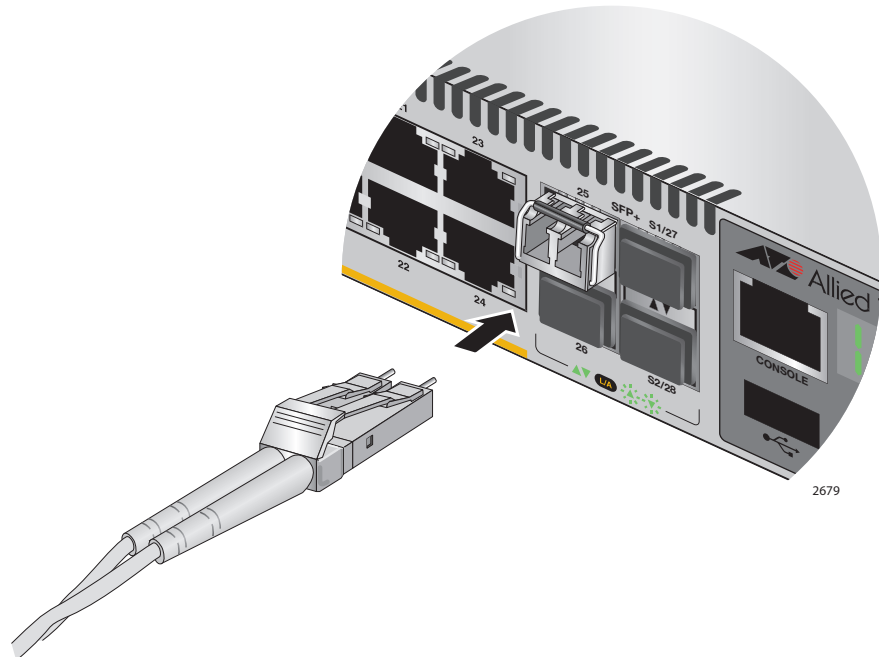

Figure 73. Connecting a Fiber Optic Cable to an SFP or SFP+ Transceiver
7. Connect the fiber optic cable to the transceiver, as shown in Figure 73. The connector on the cable should fit snugly into the port, and the tab should lock the connector into place.